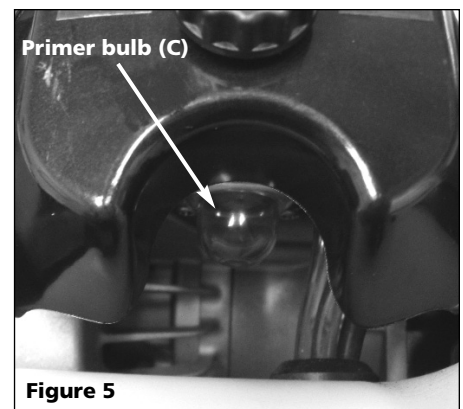

Figure 5
3. Pump the primer bulb (C) 10 times by pushing up on the bulb (See Figure 5).